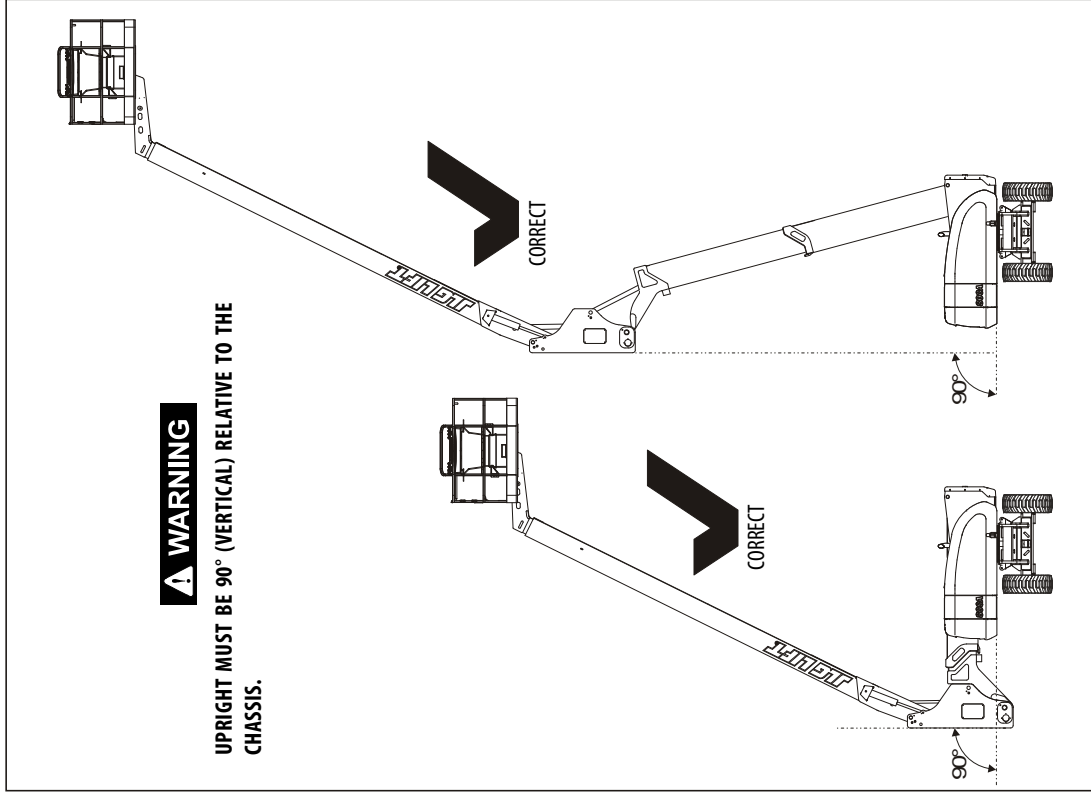
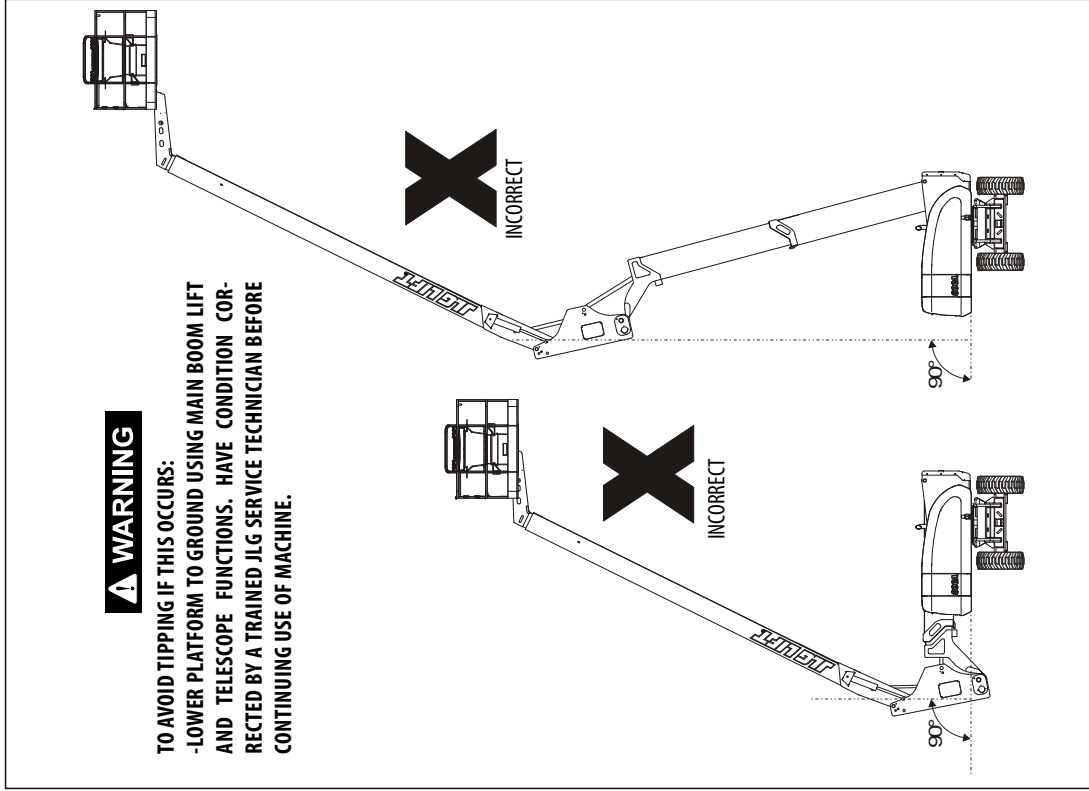

Figure 2-9. Boom Upright Positioning - Correct
Figure 2-10. Boom Upright Positioning - Incorrect
- 43. Upright** - In vertical position, relative to the chassis. Refer to Figure 2-9. and Figure 2-10. If out of alignment, do not use machine until the upright has been synchronized in accordance with Section 4.16.
- c. Raise the tower base boom to approximately 40 degrees, then lower the tower boom back to the below horizontal position. While raising and lowering the tower boom assembly, observe the position of the upright. Ensure that the upright remains vertical relative to the chassis. Refer to Figure 2-9. and Figure 2-10.